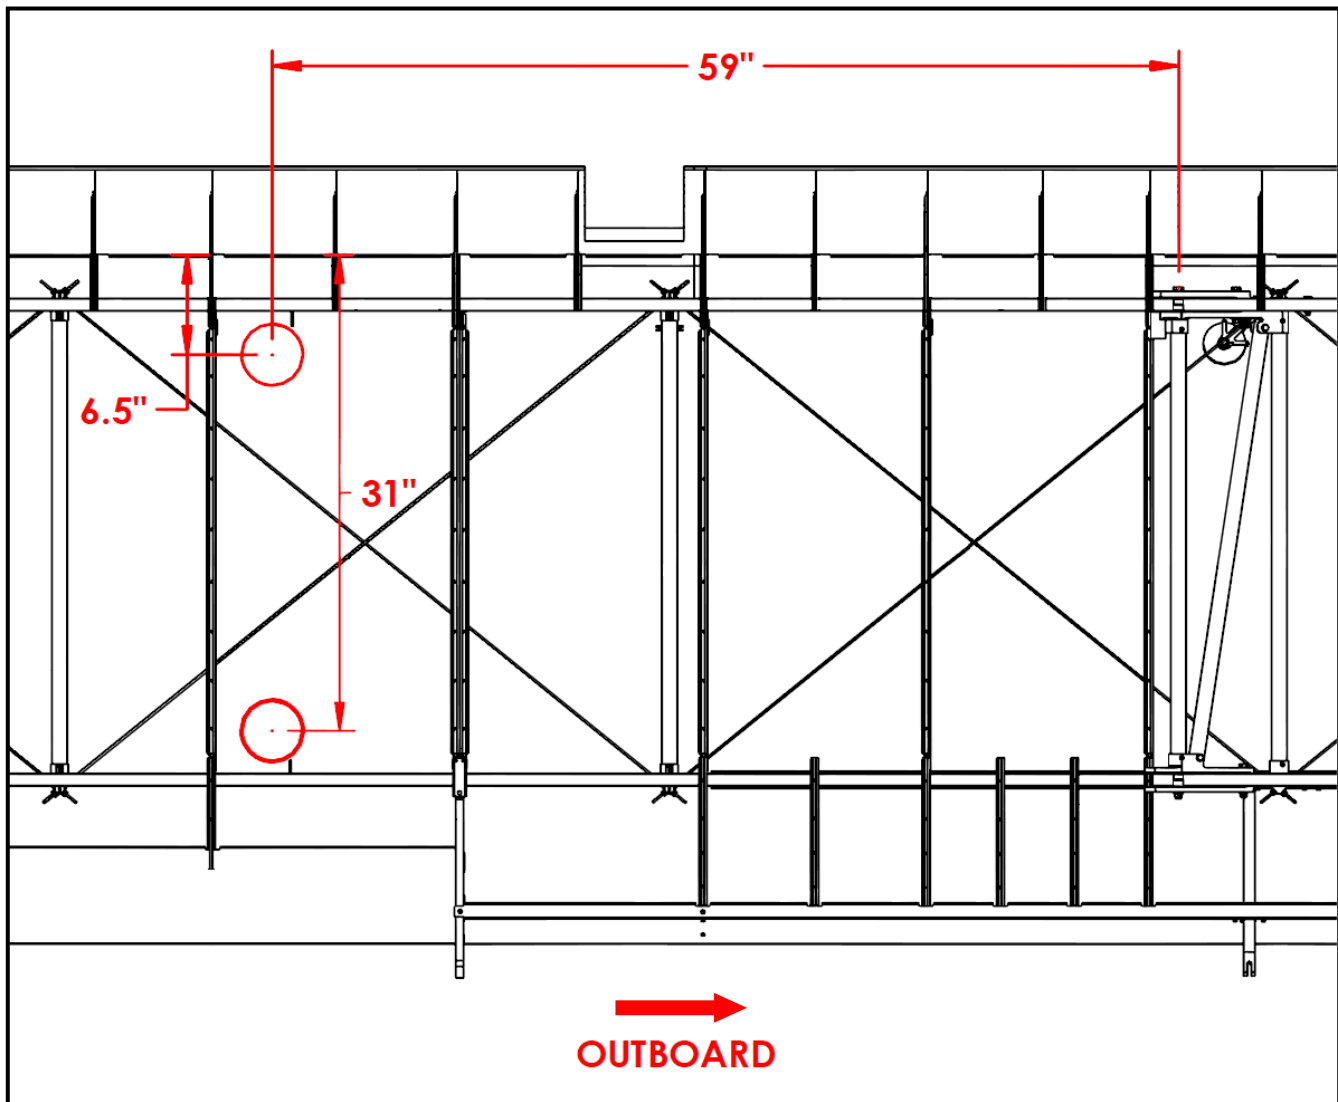

FIGURE 2 – Inspection Hole Location as Viewed from Below the Wing (FOR REFERENCE ONLY)
6. Measure 59" inches inboard from the center of the lift strut upper attach bolt and aft 6.5" and 31" from lower trailing edge of the leading edge skin to center the fabric grommet (see Figure 2). Mark the center points.